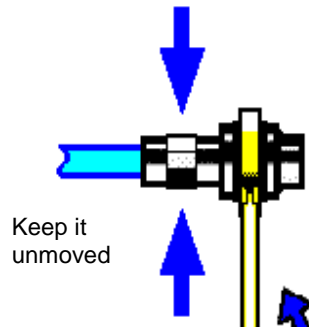

Fig. 2.6 Diagram - Use of Wrench
Step 3. As shown in Figure 2.6, use a torque wrench to complete the final connection. It should be noted that the torque wrench should not exceed the starting kick point. An auxiliary wrench can be used to prevent the connectors from rotation.